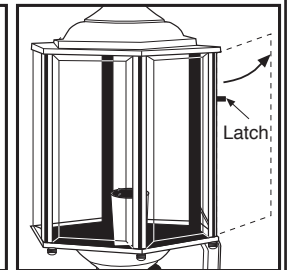

Figure 4
- For fixtures with a hinged door, simply lift latch to open door. Insert bulb(s) and secure door closed with latch. (see figure 4)